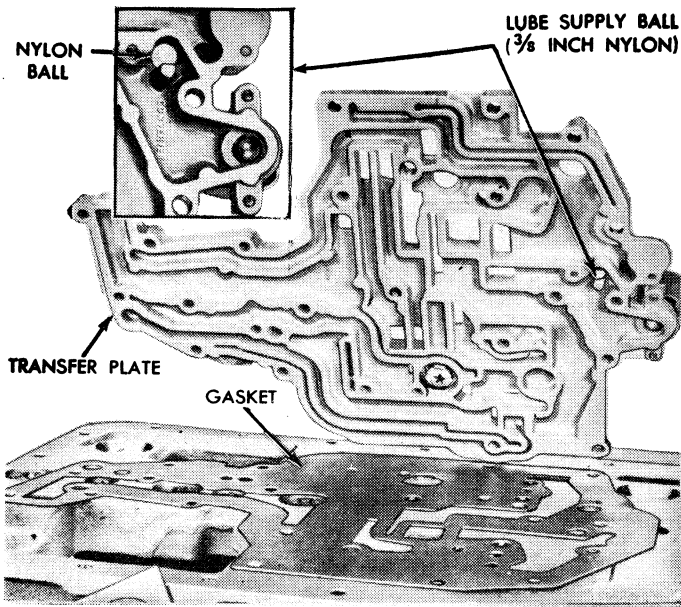

Fig. 18 Oil transfer plate installation
2. Install oil transfer plate as shown in Figs. 18 and 19. Tighten bolts to 8-10 lb. ft.